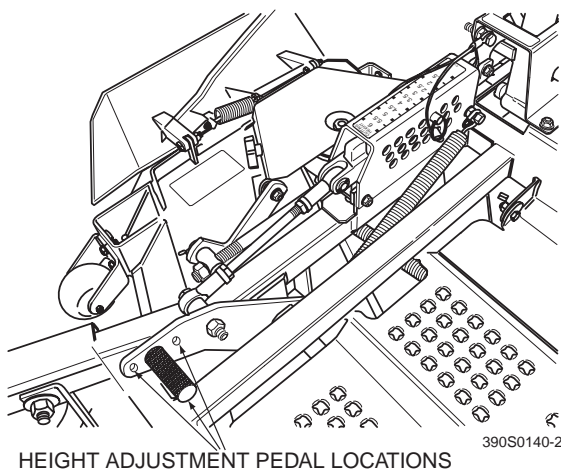

Figure 4-7. Height Adjust Pedal Locations
3. The height adjust pedal can be located in three (3) different positions for operator comfort and control. See Figure 4-7.